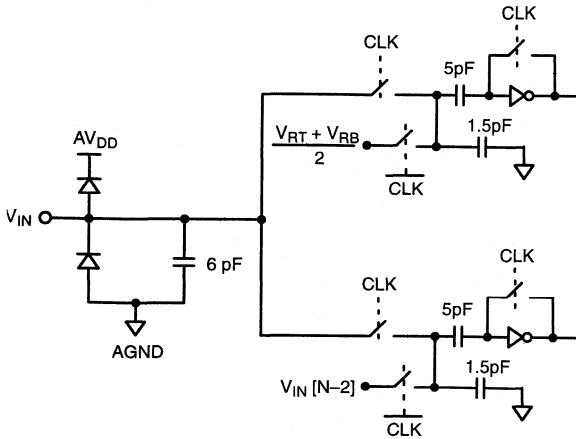

Figure 4. Equivalent Input Circuit
- 5 See V_{IN} input equivalent circuit (Figure 4). Switched capacitor analog input requires driver with low output resistance.